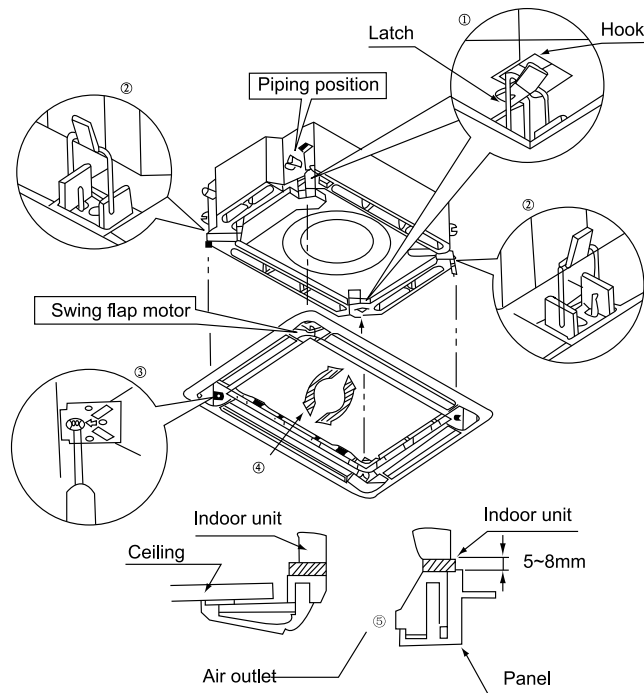

Fig.34
- (1). Place the panel at the unit, and latch the hooks beside and opposite the swing flap motor.
- (2). Latch other two hooks.
- (3). Tighten four hexagonal screws under the latches about 15mm.
- (4). Adjust the panel along the direction indicated by the arrow as shown in Fig.34.
- (5). Tighten the screws until the thickness of the sealing material between the panel and the indoor unit reduces to 5-8mm.